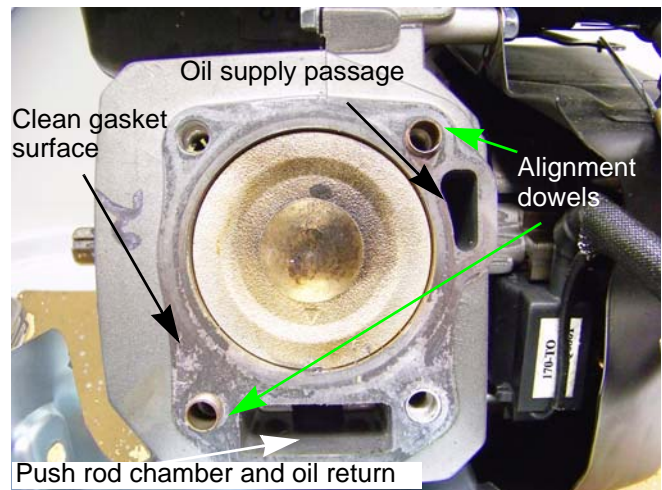

Figure 9.7
15. Carefully clean all sealing surfaces of all gasket residue. Do not scratch the sealing surfaces. See Figure 9.7.